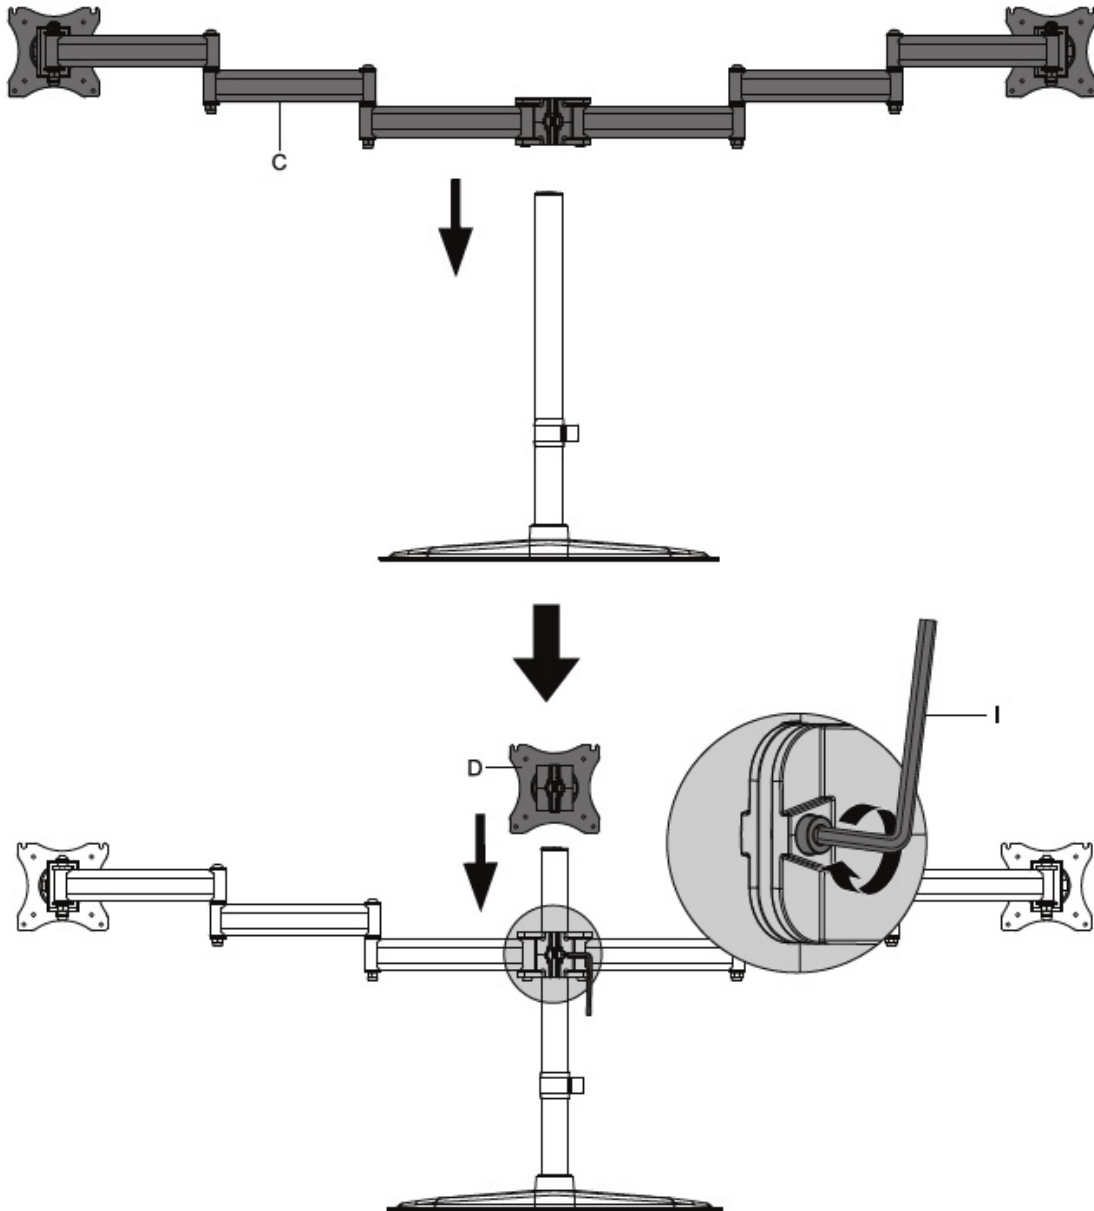

Figure 2A
1. Mount the **Arm Assembly with VESA Plate (C)** to the tube support, secure it by tightening the clamp bolt using the included **5mm Allen Key (I)** as shown in **Figure 2A**. Do not overtighten the clamp bolt, doing so may damage the clamp or tube support.
2. Mount the **VESA Plate (D)** to the tube support, secure it by tightening the clamp bolt using the included **5mm Allen Key (I)** as shown in **Figure 2A**. Do not overtighten the clamp bolt, doing so may damage the clamp or tube support.